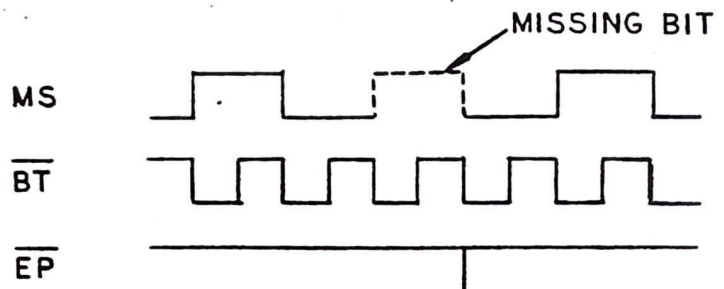

Fig. 11 - Over-All Timing, Bit Error Detection
### Bit Error Circuits (Fig. 11 and 28)
3.25 The bit error circuits monitor MS when MS is either a reversal pattern or pseudo random pattern signal. MS is compared with identical internally generated patterns. Should MS lose a bit, the incoming and internal signal patterns would not be coincident during the time of the missing bit (Fig. 11). The lack of coincidence initiates an error pulse (EP). PUSH TO SYNC switch S5 is operated to synchronize the incoming pattern with the